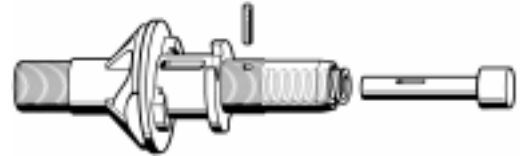

Fig. 9 - Control Valve Piston Alignment
1. Place the spring(32) inside the open end of the control valve body(28) which faces toward the main valve.
2. Align the elliptical hole in the shaft of the control valve piston(33) with the elliptical hole in the control valve body (see Fig. 9). While maintaining this alignment, insert the shaft of the piston through the spring and into the body. Compress the control valve body and piston between thumb and forefinger until the hole in the piston shaft can be sighted through the small hole in the control valve body, and insert the small pin(30) through the control valve body and piston. When the pin is perfectly centered inside the control valve body, relax the piston to hold it in place.